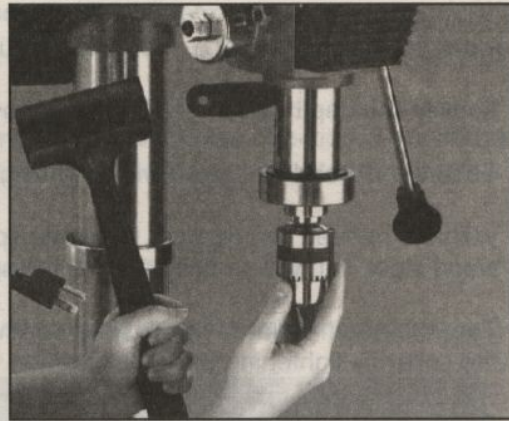

Figure 12
3. Insert the drift key into the slot and allow the quill to rise, trapping the drift key. Hold the drill chuck with one hand and tap on the drift key with a hammer as shown in **Figure 12**.